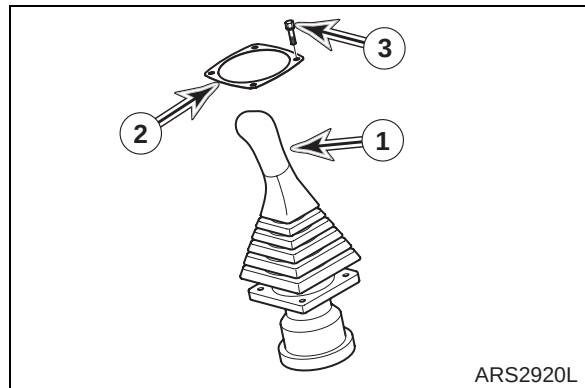

Figure 5
14. Remove four bolts (3, Figure 5) and cover (2), and pull remote control valve LH (1) out.
15. Tag and disconnect hoses from remote control valve LH (1, Figure 5). Plug and cap hoses and ports to prevent contamination from entering hydraulic system or component.